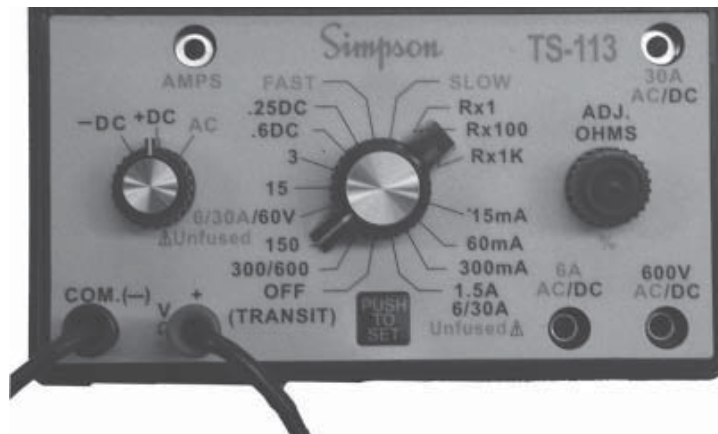

Figure 5. Measuring DC Volts
- Set the range selector switch between 0.25DC and 300/600 range as shown in Fig. 5. When in doubt, first select the highest available range.
- For voltages less than 300V,** (Fig. 5) connect the black marked lead into the “ COM (-)” jack and the red marked lead into the “+” (V W %) jack.